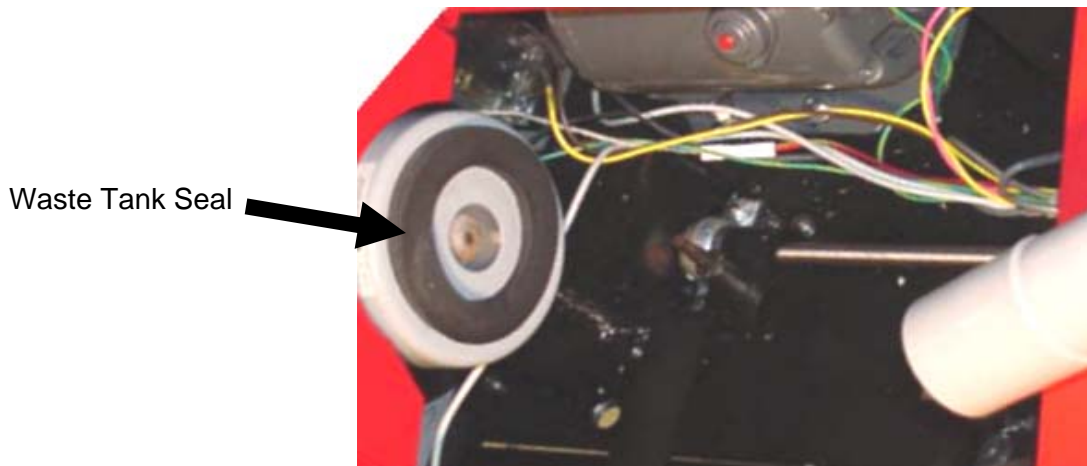

Figure 3-22
2. Remove the waste tank from the machine to expose the vacuum motor seal, as shown in Figure 3-22.